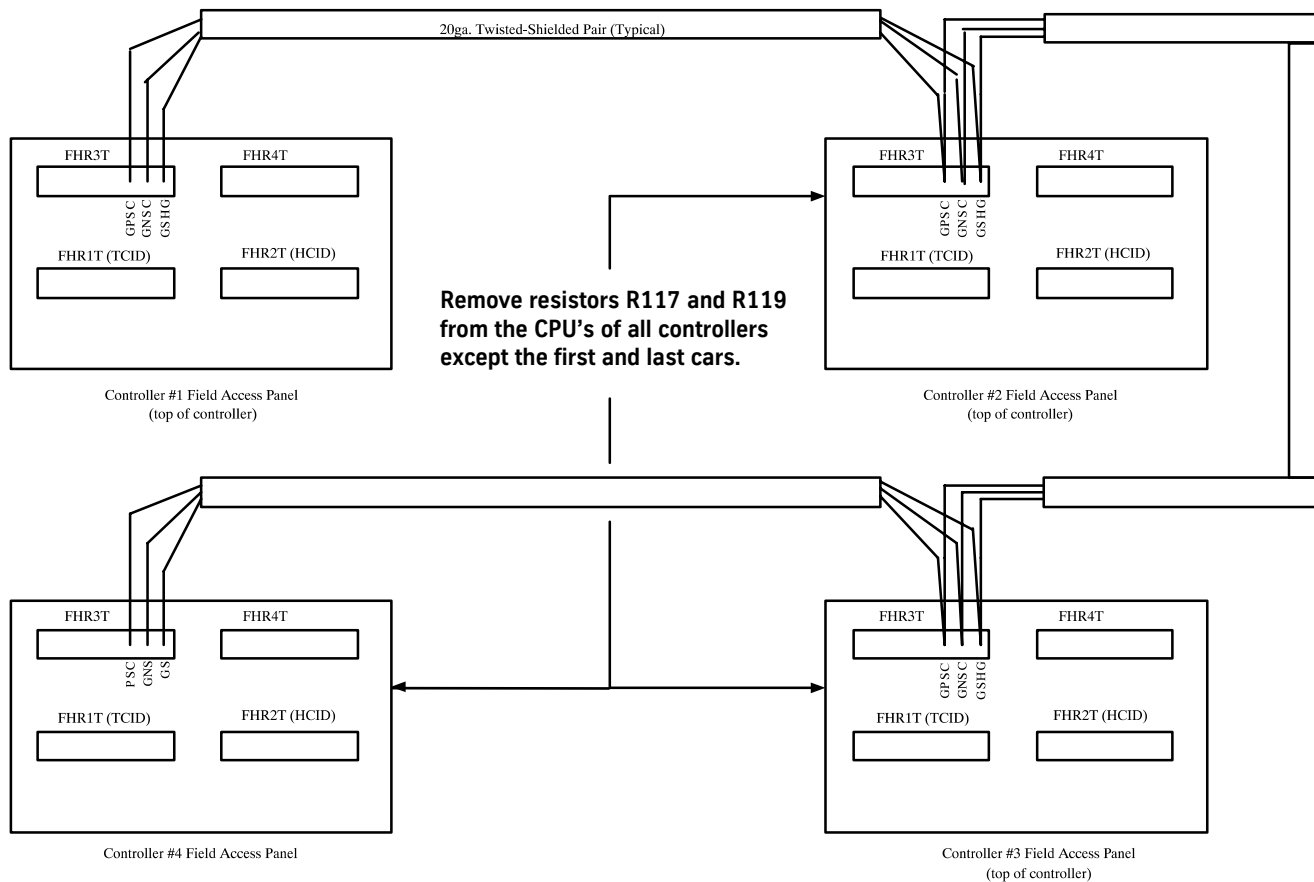
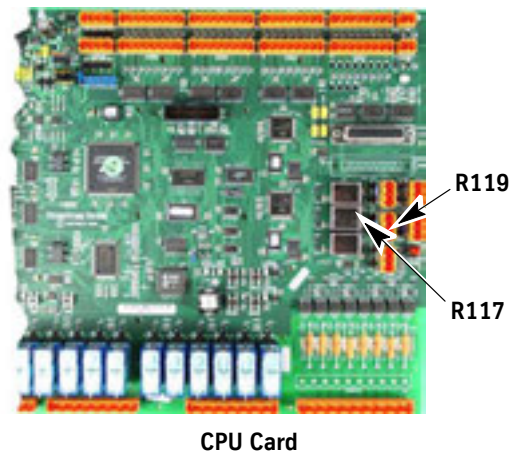

Figure 28 - ICON Group Communications Car-to-Car Cross Connections
Figure 29 - R117 and R119 Resistor Locations
1. Verify cross connections between all cars (not required on single car jobs). See the job wiring diagrams and Figure 28 on page 56.
2. Verify that resistors R117 and R119 have been removed from the CPU card of the center cars of the group communications wiring run (resistors are to remain on the CPU's of the cars at the end of the wire run only). See Figure 28 and Figure 29 on page 56.